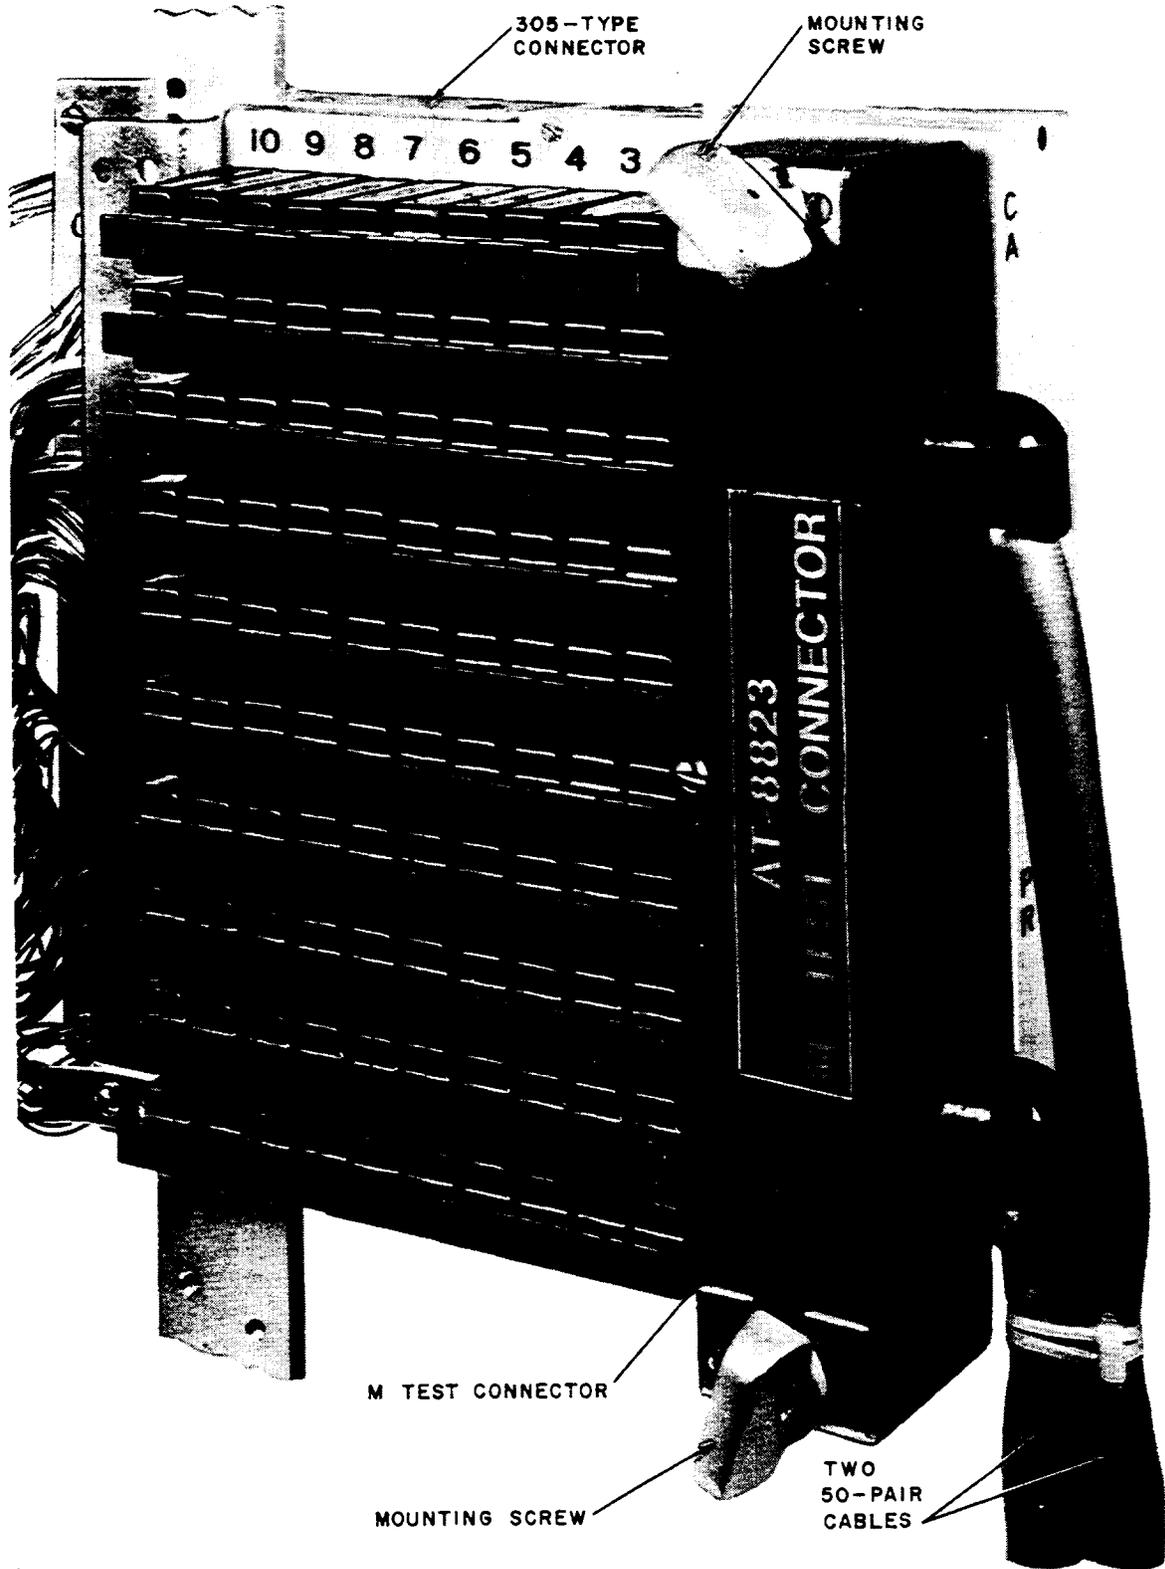

Figure 17—M Test Connector (AT-8823) Mounted on a 305-Type Connector
7.07 M Test Connector (AT-8823): A 100-pair test shoe (Figure 17) is intended for making multiple pair cable tests.